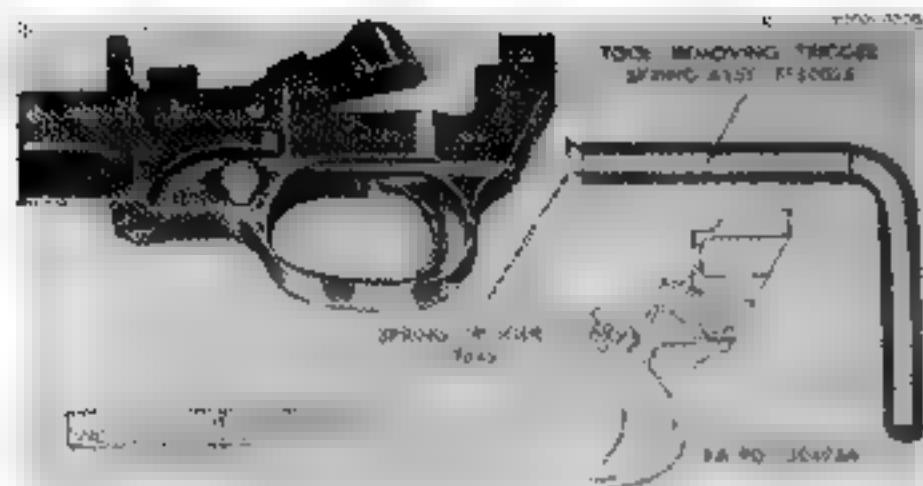

Figure 46. Trigger spring removal and installation.
b. To facilitate the removal and installation of the trigger spring (Fig. 46), tool 7160026 has been devised, to be used as follows.
- (1) Remove the stock from the carbine.
- (2) Insert the tube portion of the trigger spring removing tool (Fig. 46) in the recess in the rear of the trigger housing containing the trigger spring; compress and retain the trigger spring within the tube of the tool.
- (3) Turn the handle of the tool one-quarter turn counterclockwise.
- (4) Withdraw the tool and spring while pushing the handle of the tool slightly to the right.
- b. Using trigger spring removing tool 7160026 (Fig. 46) replace the trigger spring by reversing the procedure of removal. When the spring is in position in the retaining groove of the trigger, depress the trigger and withdraw the tool from the housing. Install the stock on the carbine.